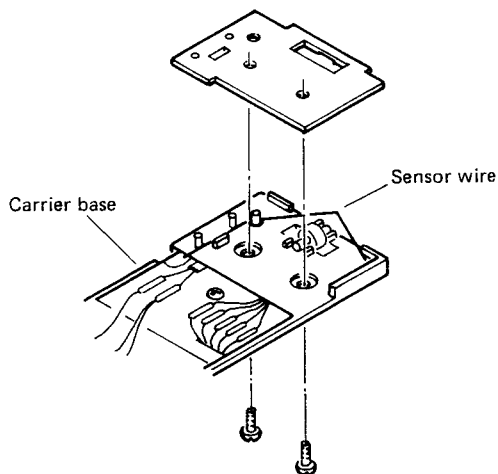

Fig. 9
5-(7) Stringing of sensor wire (Fig. 9)